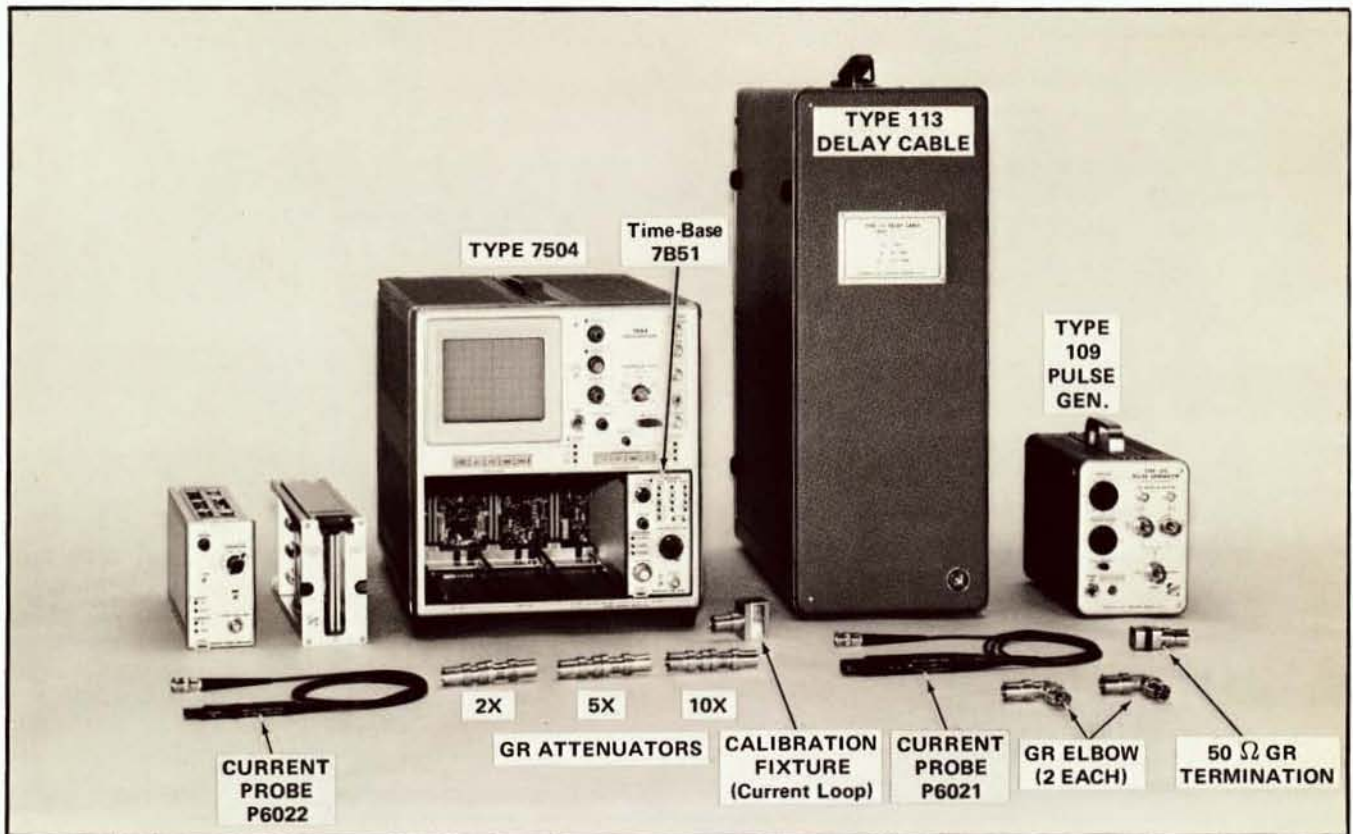

Fig. 5-2. Test equipment required for Steps 2 through 6.
a. Test equipment setup is shown in Fig. 5-2; Reset the Type 7A14 CURRENT/DIV to 1 mA.